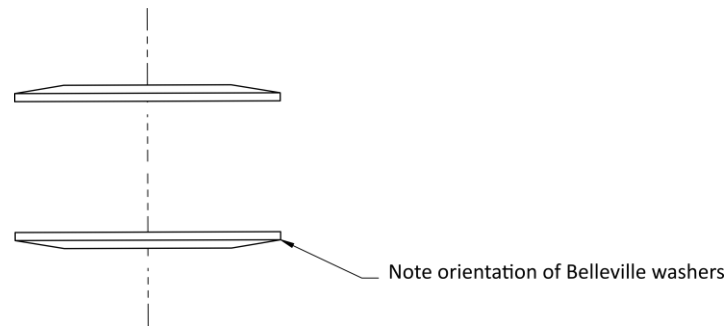

Figure 5.7.7.13 Belleville washer assembly orientation.
(2) INSPECTION
(3) INSTALLATION
- (b) Insert front wheel assembly and nose wheel fork onto nose landing gear spindle with Belleville washers as shown below (Figure 5.7.7.13). Tighten nose fork pivot nut snug.